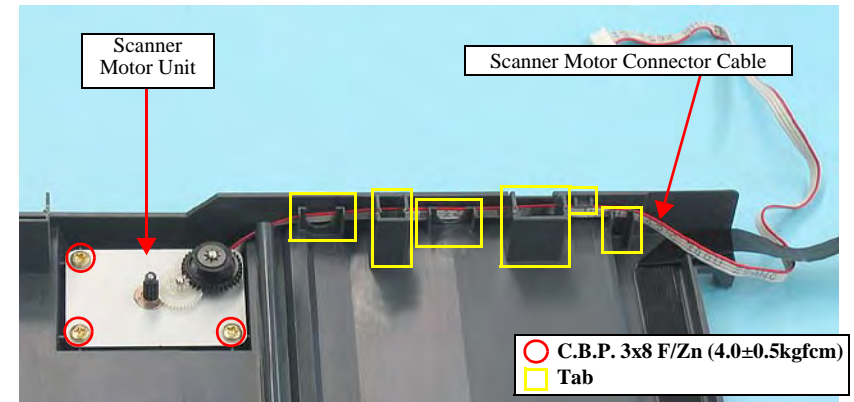

Figure 4-102. Removing Scanner Motor Unit
- Route the Scanner Motor Connector Cable as shown in the figure. (refer to Figure 4-102)